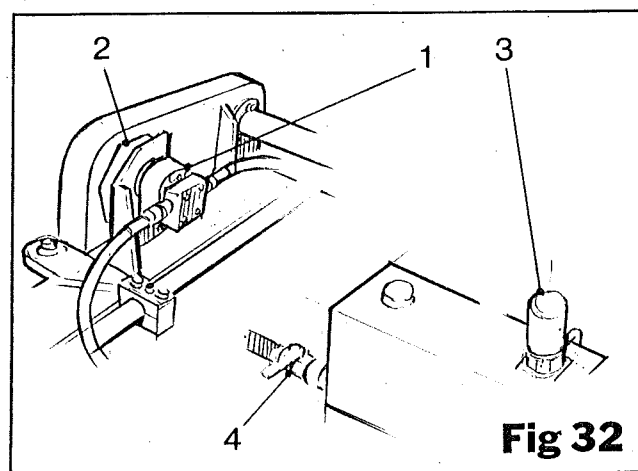

Fig 32
The power pack for the Statesman comprises of a hydraulic pump (item 1, fig 32) mechanically driven from the PTO of the towing vehicle through a 2.89:1 mechanical gearbox (item 2, fig 32). The pump delivers a flow rate of 12 GPM being fed from a 20 gallon tank mounted on the left hand side of the machine. The tank should be filled with H68 Nuto hydraulic oil or equivalent and should be kept full, especially when storing the machine for long periods of time. A level gauge is positioned on the front of the tank.
The replacement filter (item 3, fig 32) should be renewed at the completion of the first 100 hours of work and then at every 500 hours.
A shut-off valve (item 4, fig 32) has been fitted to the hydraulic tank to allow the undertaking of any maintenance to the hydraulic system without draining the tank.